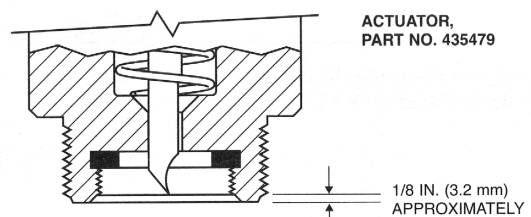

FIGURE 7
- a. Make certain puncture pin is fully retracted and insert ring pin through actuator body into puncture pin shaft. **Note:** The tip of the puncture pin of the PAD Actuator, Part No. 435479 only, should be retracted a distance slightly less than 1/8 in. (3.2 mm) above the bottom of the actuator. See Figure 7.